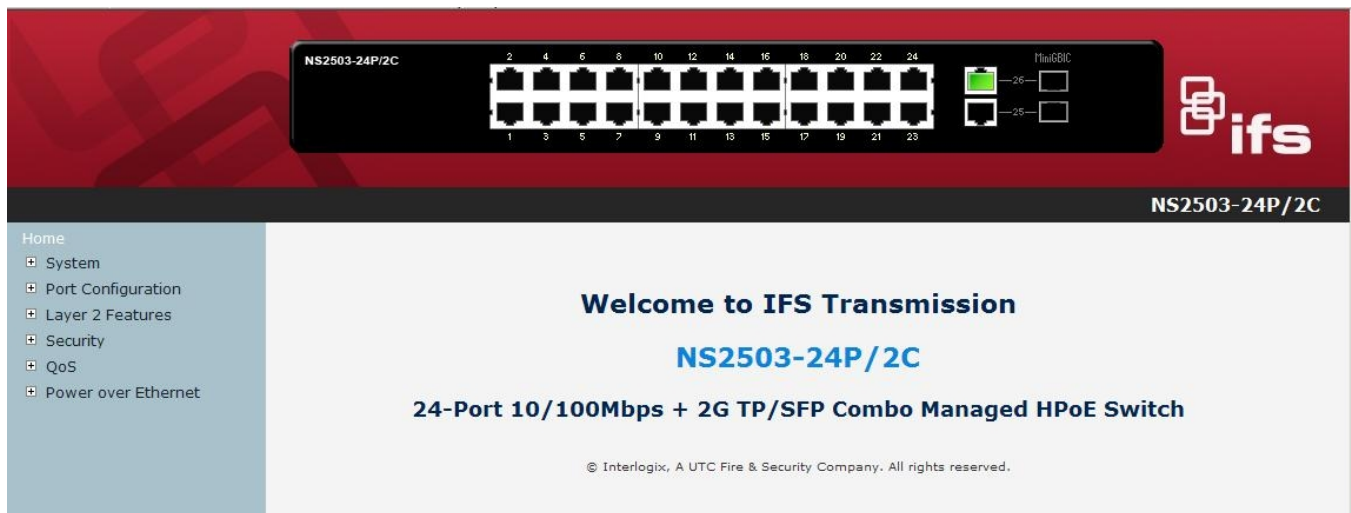

Figure 7: Web Main Page Screenshot
3. After entering the username and password, the main screen appears as Figure 7.